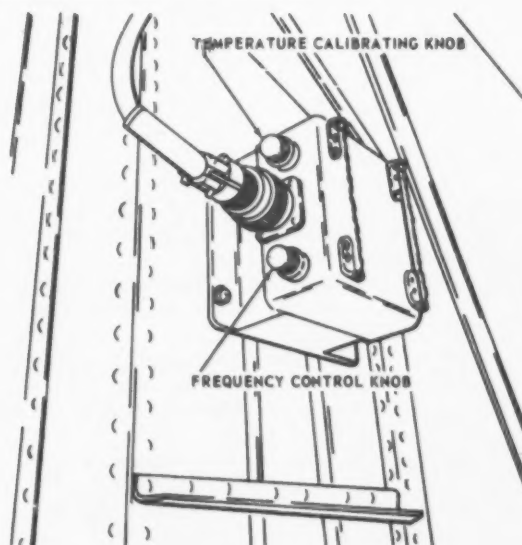

Figure 11-13. Heater temperature control box adjustment (U-8F)
11-52. The heater temperature control box (figure 11-13) is located in the front, right-hand corner of the nose equipment compartment. It automatically cycles the heater to maintain the temperature selected with the flight compartment or the cabin temperature control rheostat. The relative resistance of the cabin exhaust air sensing element, the heater discharge air sensing element, the outside air sensing element, and the operative temperature control rheostat are used in a resistance bridge circuit. When the temperature around one of the sensing elements changes, the resistance from that element changes, causing the contacts of an ultra-sensitive relay to close. The closed relay contacts allow current from a power relay to energize the fuel solenoid. When the cabin reaches the selected temperature, the bridge circuit balances, the bridge relay contacts open, and the fuel solenoid closes.
d. Installation. (1) Position control box in front, right-hand corner of nose equipment compartment.
(2) Attach control box to fuselage with screws.
(3) Connect electrical plug.
e. Adjustment. The temperature and the frequency calibration knobs on the temperature control box should be set as follows: (Refer to figure 11-13.)
(1) TEMP INCR - Rotate clockwise until closed.
(2) FREQ INCR - Rotate clockwise until closed, then back one-fourth turn.